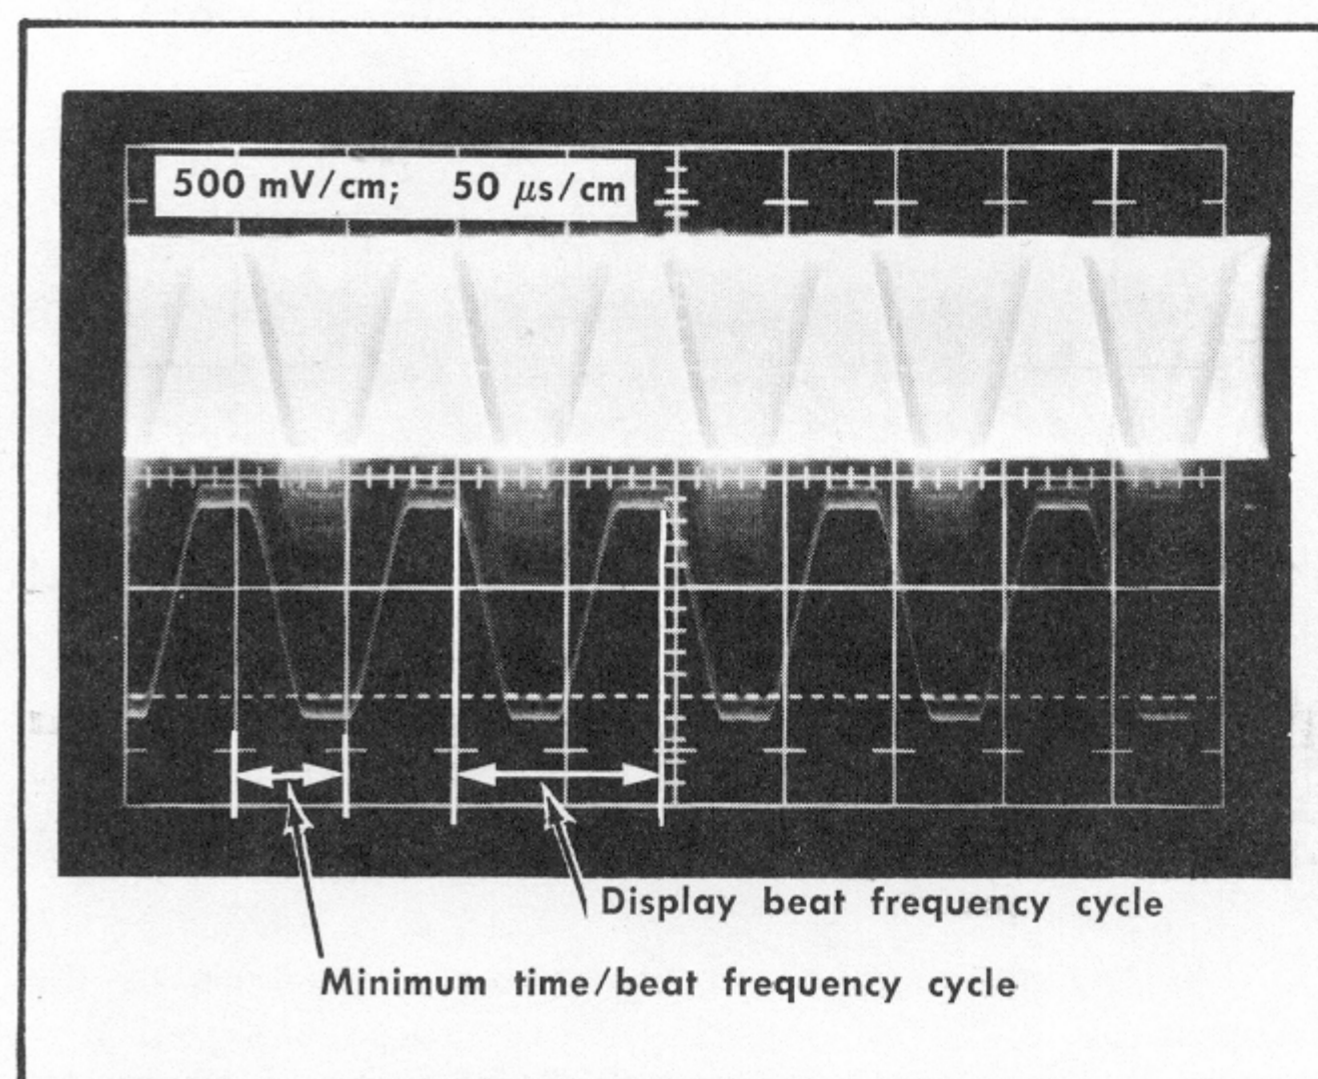

Fig. 5-10. Test oscilloscope display for step 10f.
f. Set the test oscilloscope time base controls for a triggered, stable display of the difference frequency displayed. Fig. 5-10 shows a typical beat frequency display.